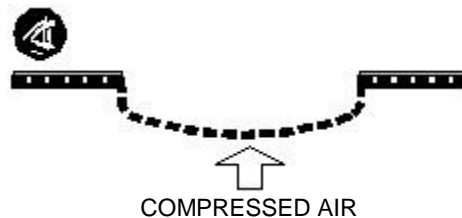

Figure 8-25: Burner Module Profile Compressed Air Orientation (Step 17)
2. Use only compressed air to clean the burners by blowing into the “side flame” side of the burner mesh. See Figure 8-25.